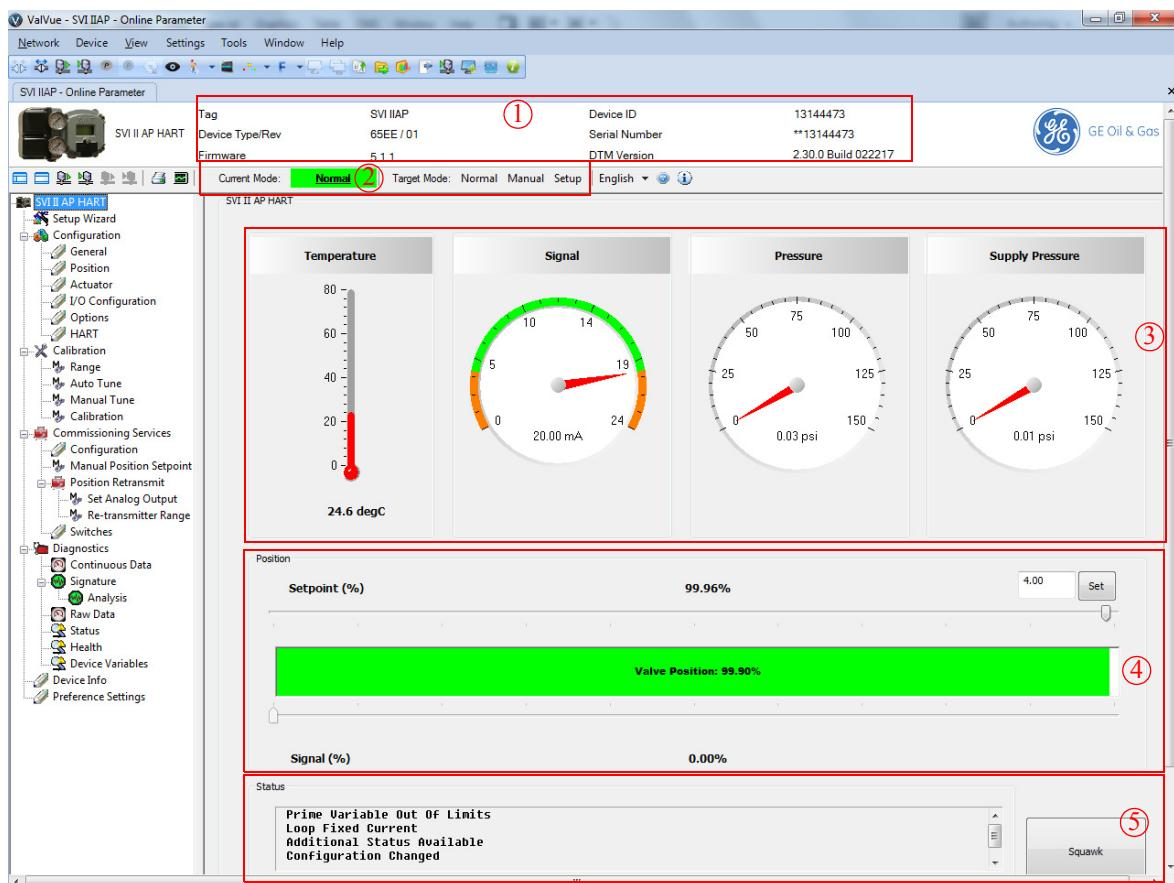

Figure 26 SVI II AP HART® Screen
Use this area located at the top of all SVI II AP Advanced DTM screens (Figure 26 - ①) to view the current status of the SVI II AP and to change the operating mode.